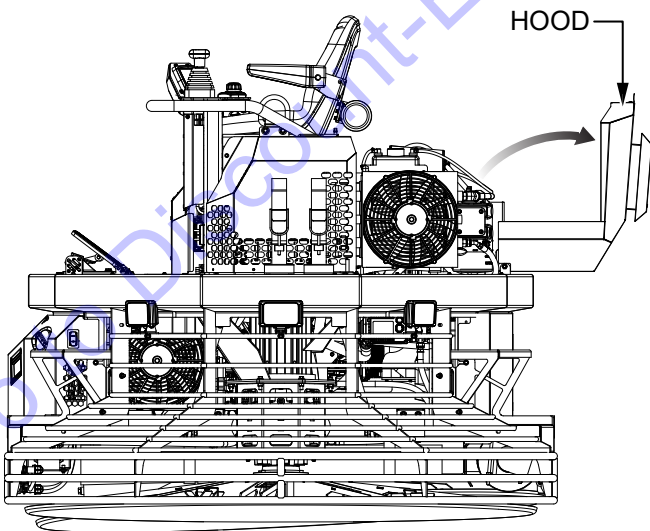

Figure 55. Float Hood (Open)
2. Open the hood as shown in Figure 55.
1. Make sure the float is on a secure, level surface with the engine stopped and the hood open as shown in Figure 55.